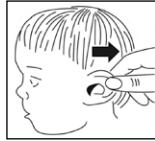

Figure 6
- For children aged under one year: Pull the ear straight back (Figure 6).
If no measured values are saved, the following appears on the display (Figure 6):
- The display first shows CL (Clear), then the memory number 0 (Figure 6).